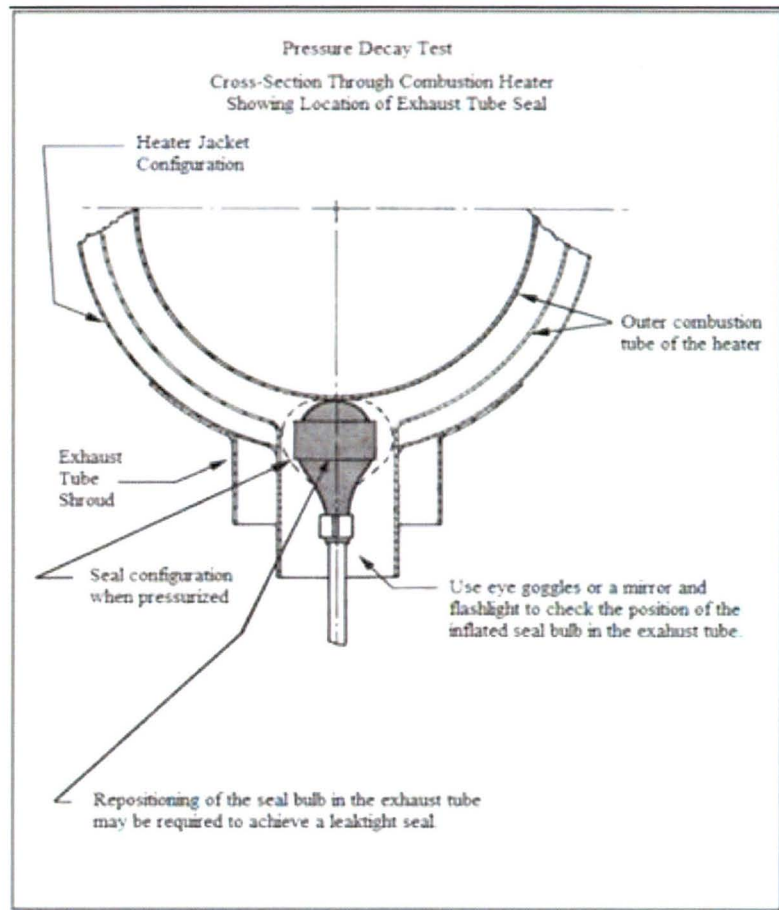

Figure 4
- 6.5 Slowly inflate the exhaust seal bulb, using the regulated supply air, until the exhaust tube is sealed. When properly installed, the exhaust seal bulb will hold itself in place. (Figure 4)